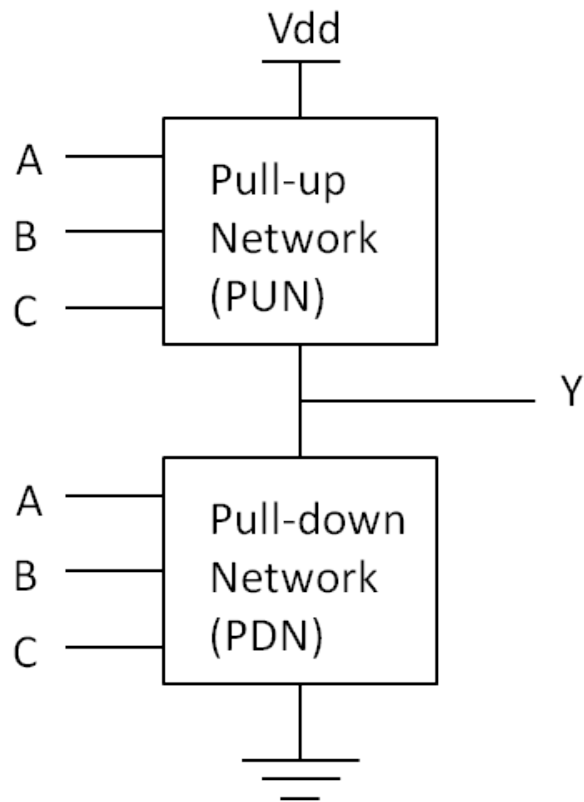

Figure 1: CMOS basic structure
3. (a) Describe the CMOS basic structure as shown in Figure 1. (20 marks)